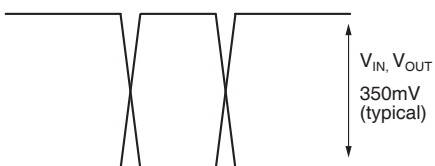

Figure 1c. Single-Ended Swing
- Note 5.** See Figures 1c and 1d for V_{DIFF} definition.
Note 5. See Figure 1c.